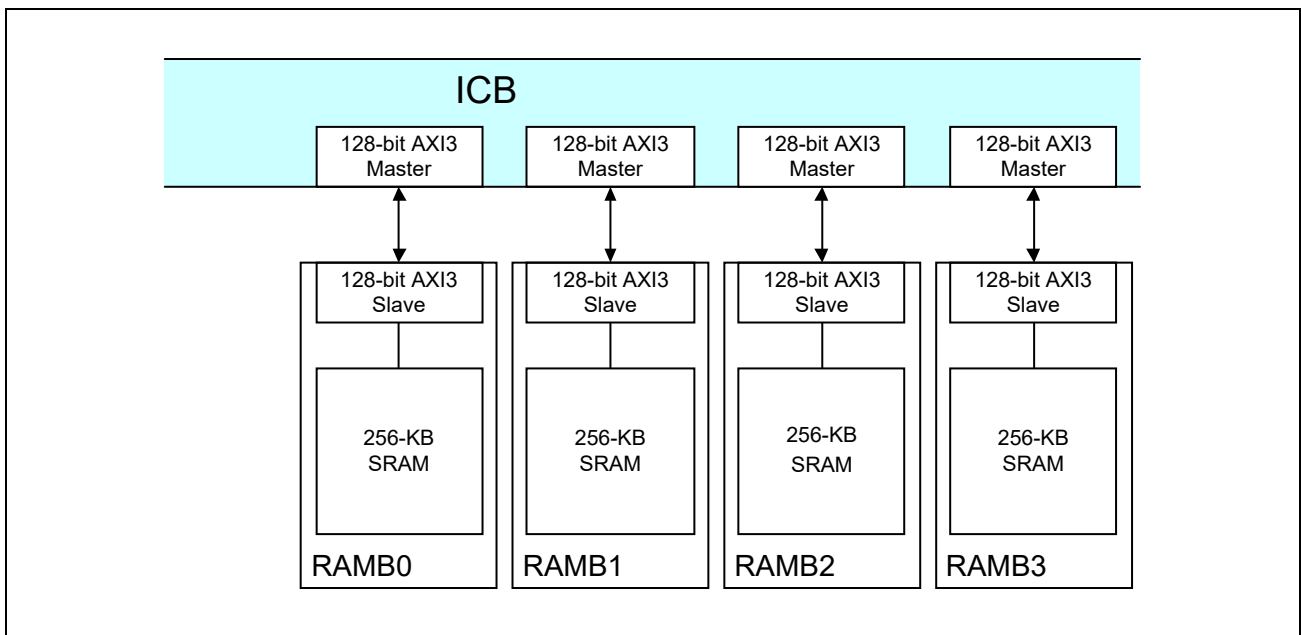

Figure 13.1-1 Schematic of RAMB Connection
**Figure 13.1-1** shows the connection diagram of the RAMB.